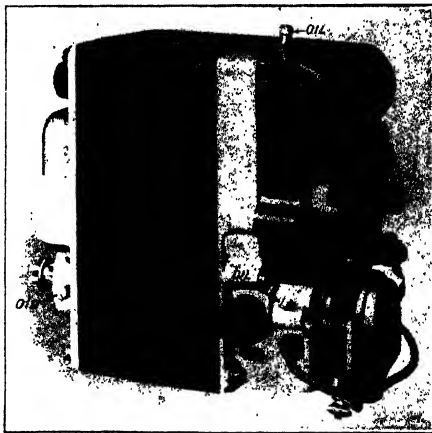

Fig. 113. Westinghouse Generator with Ignition Distributor
**Generator Design Follows Magneto Precedent.** Several generator designs have been developed which resemble that of a magneto. In the Westinghouse generator, Fig. 113, and the Remy,